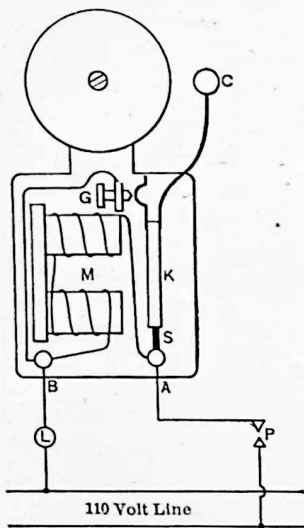
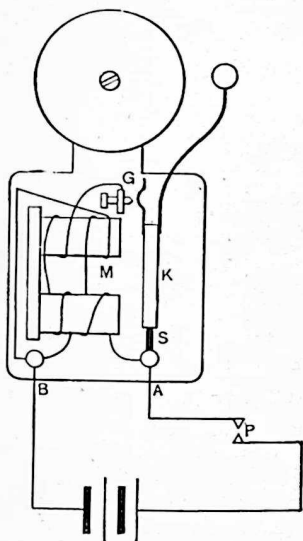

FIG. 188. Vibrating-stroke bell. Short-circuit type.
FIG. 189. Vibrating-stroke bell.
**111. Short-circuit Type.** But when the electric lighting circuit is used to ring the bells the points at *G* soon become fouled on account of the excessive sparking which takes place every time the circuit is opened at this point. To avoid this, two other types of vibrating-stroke bells are in common use: the short-circuit bell, Fig. 188, and the differential bell, Fig. 189.
**112. The Differential Type of Bell.** The differential bell of Fig. 189 will work either on a battery or on the lighting circuit with a lamp in series with the bell.